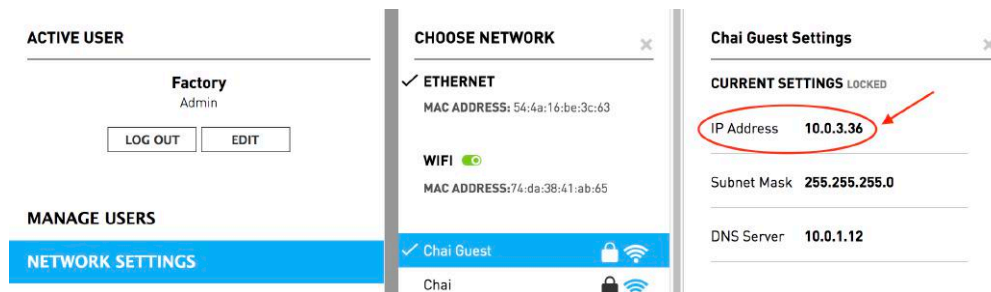

Figure 2.1
- 6) Type in the password for the network and note the IP address stated under **Current Settings** (Figure 2.1). Make sure this IP address is also displayed on the bottom left of the instrument's LCD screen.